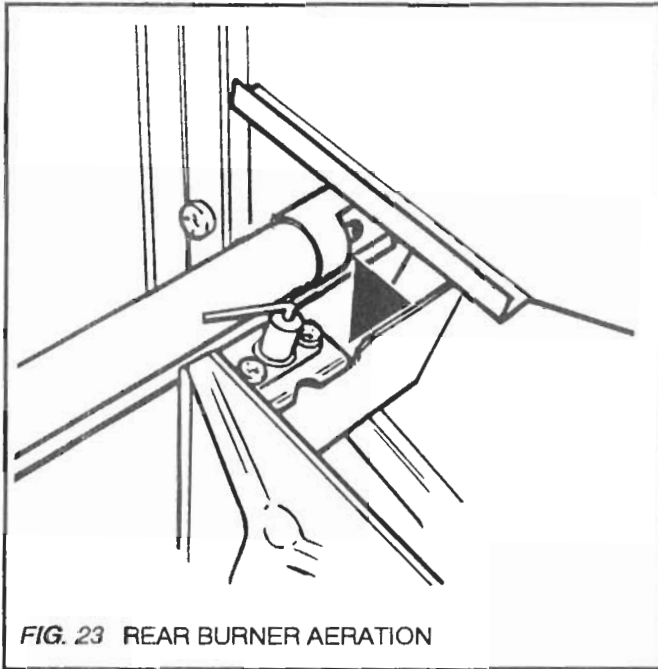

FIG. 23 REAR BURNER AERATION
- 15.1.** The rear burner tube is equipped with an adjustable shutter to control primary aeration. The air holes are at the right side of the tube. The appliance is supplied with the front air hole open 3/16" (5mm) and the top and rear holes closed (see figure 23). For the majority of installations no adjustment will be necessary. However, in a few instances, performance may be improved by adjusting the aeration. Aeration is adjusted by sliding the shutter to the left or right.